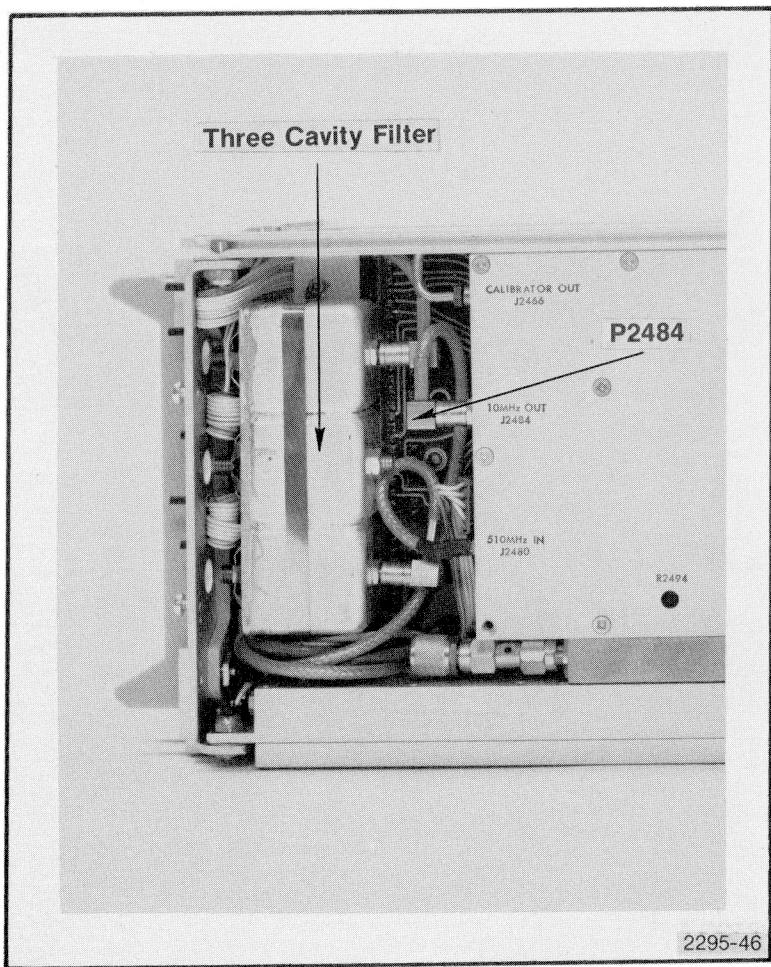

Fig. 4-38. Location of P2484 and 3-Cavity Filter.
h. Disconnect P2484 (10 MHz Output on the 2nd Mixer assembly, see Fig. 4-38), then apply 10 MHz, -30 dBm signal from the signal generator through a 10 dB step attenuator and bnc-to-Sealestro adapter, to P2484.
j. Adjust the generator output gain for a display amplitude of seven (7) divisions. This will be the VR reference level for the other bandwidth selections.